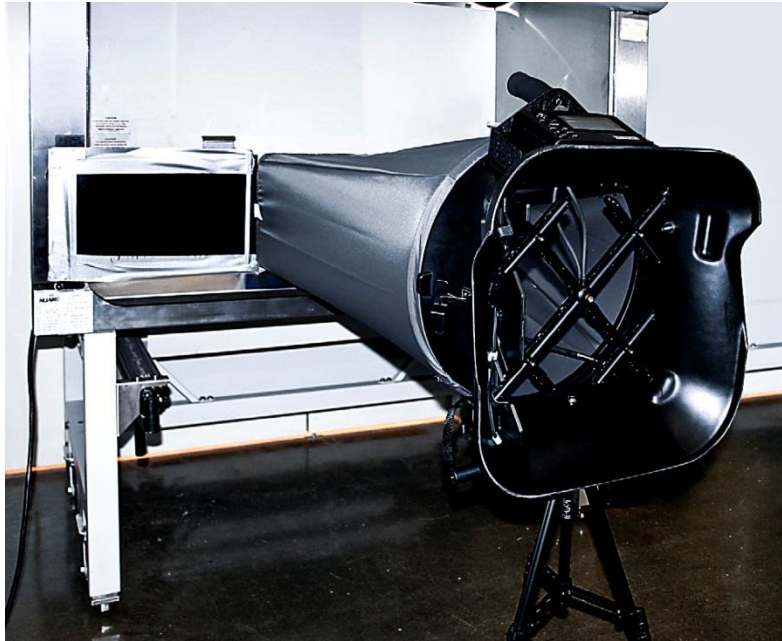

Figure 28: Adjust Height and Position of Telescopic Stand
5. Adjust the height and position of the telescopic stand so that the bottom part of the hood frame rests against the cabinet opening, and the capture hood is horizontal to the cabinet (see Figure 28).